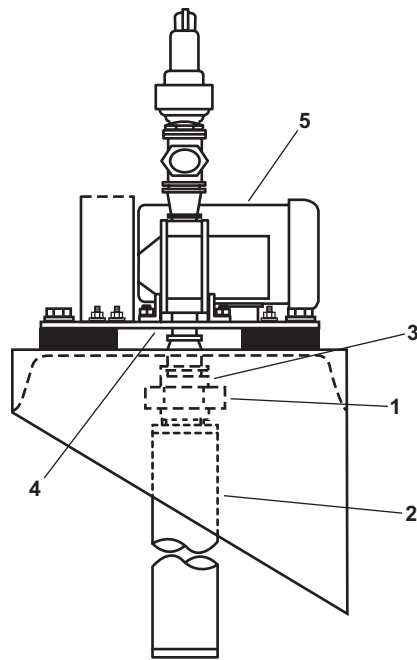

Figure 1. Silencer Replacement
1. Disconnect the union (figure 1, item 1) on the silencer (figure 1, item 2).
2. Remove the silencer (figure 1, item 2).
3. Remove the pipe fittings (figure 1, item 3) from the silencer (figure 1, item 2) and the male pipe threads (figure 1, item 4) of the blower (figure 1, item 5).
1. Wrap the male pipe threads (figure 1, item 4) with antiseizing tape.
2. Install the pipe fittings (figure 1, item 3) in the silencer (figure 1, item 2).
3. Connect the union (figure 1, item 1) on the silencer (figure 1, item 2).